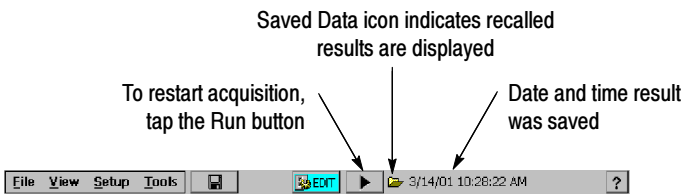

Figure 3-66: Example of a Recalled Result display
3. Select the results file to recall and tap **OK**. The Cammand bar shows results information. See Figure 3-66.